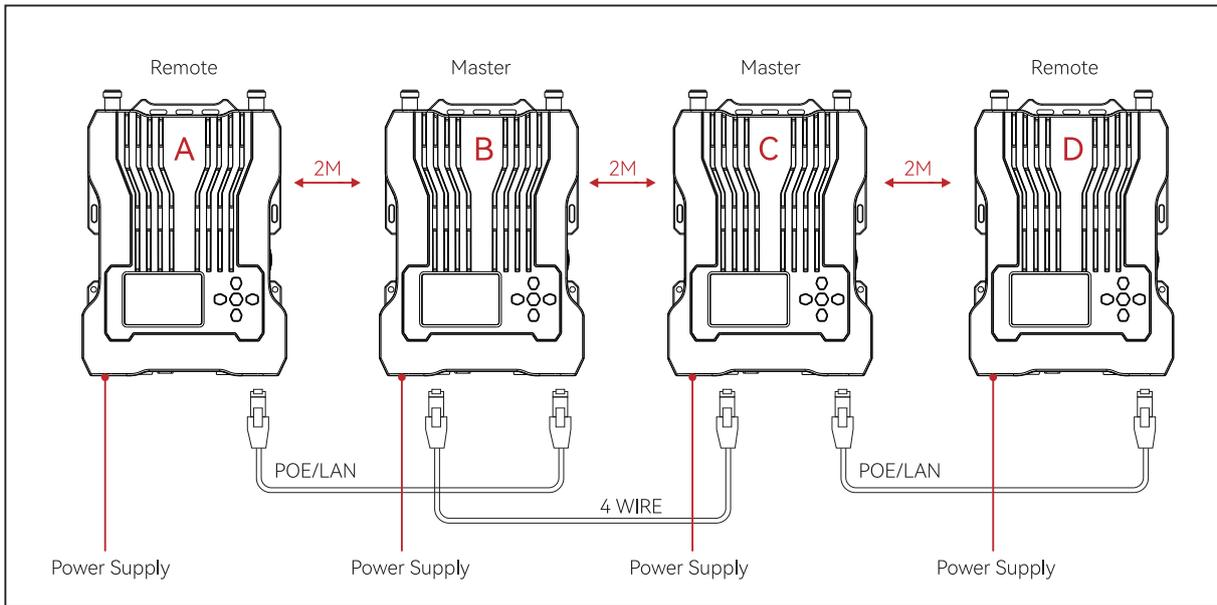

Figure 1
2. Connect the POE/LAN interface of base station B and base station A using a network cable. (See Figure 1)